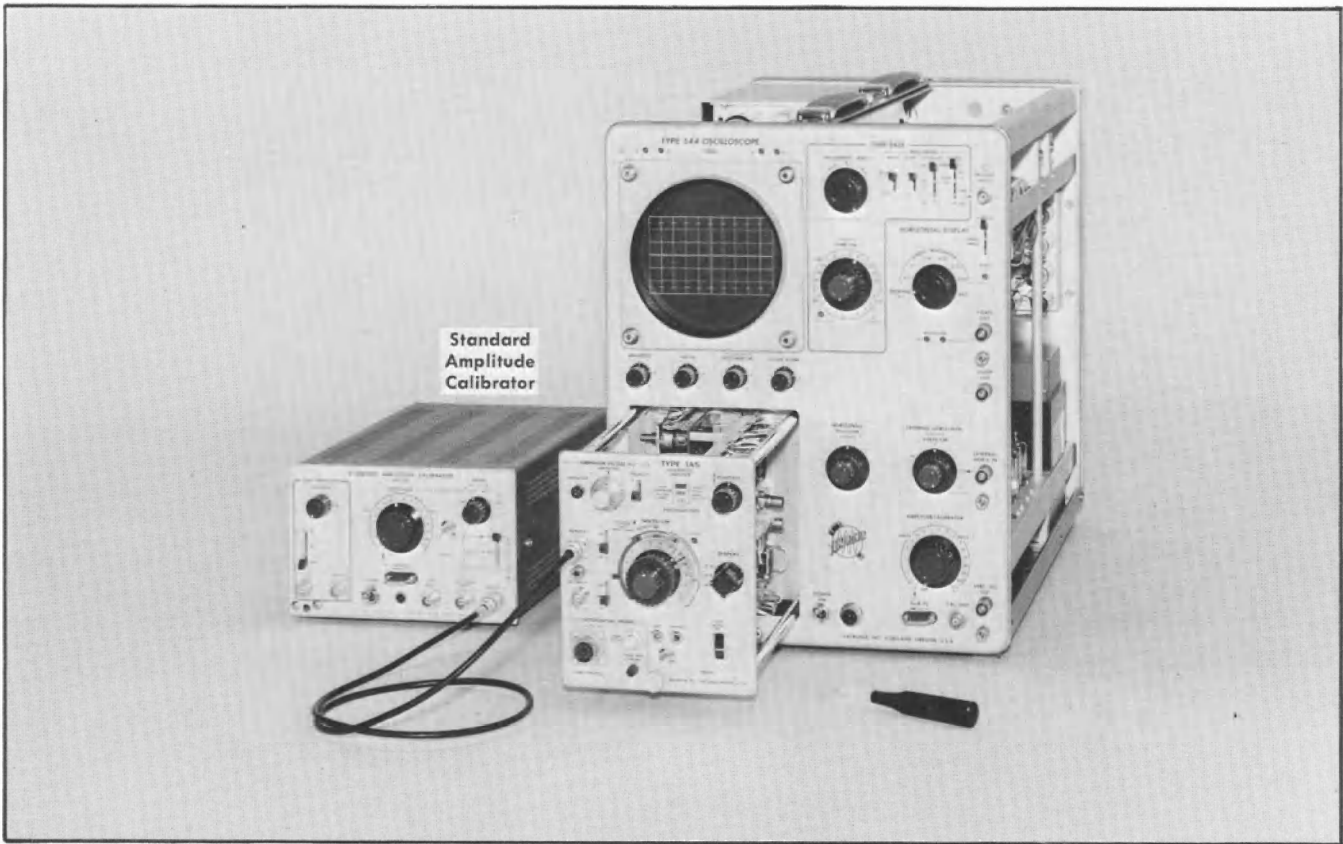

Fig. 6-9. Equipment setup for steps 5, 6 and 7.
- a. Equipment setup is shown in Fig. 6-9. Location of adjustment is shown in Fig. 6-10. UNCAL lamp must remain off during entire procedure.
- b. Connect a .1 V-1 kHz square wave output from the Standard Amplitude Calibrator (item 2) to the A INPUT connector, using a coaxial cable equipped with BNC connectors (item 8).
- Equipment setup is shown in Fig. 6-9.
- Equipment setup is shown in Fig. 6-9, except that the B Input AC-GND-DC control is set to DC.